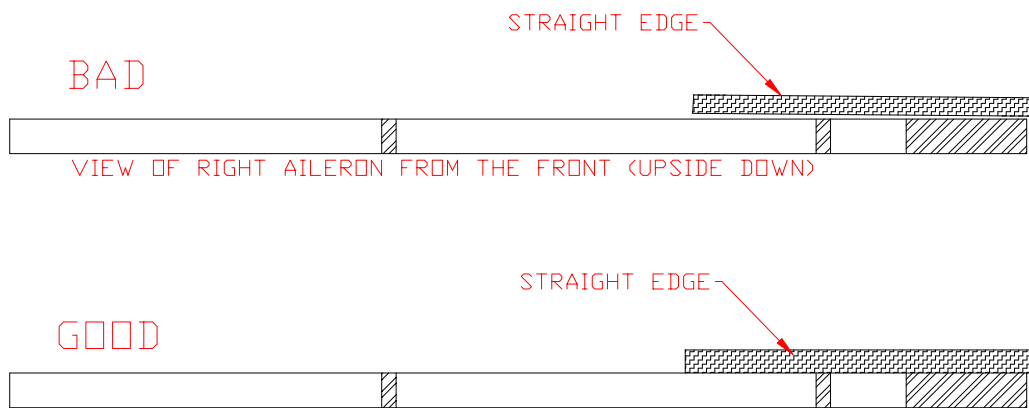

Figure 7.6.4
- 5) At this time check the Spade for any twist using a long straight edge. Rest the straight edge on the Spade and visually check from the front of the Leading Edge. Figure 7.6.4. If the spade is slightly out of alignment now is the time to true it. Lay the Aileron upside down on the work bench.